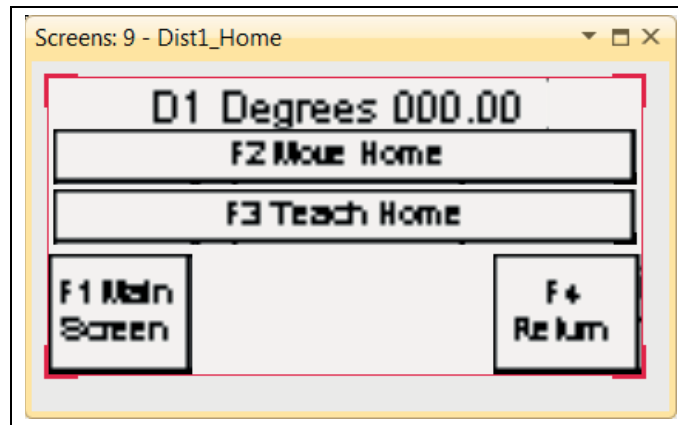

Figure 5J
10. After pressing the **F3** Home Screen key, the following screen will appear as in Figure 5J. Press the **F3** Teach Home key.